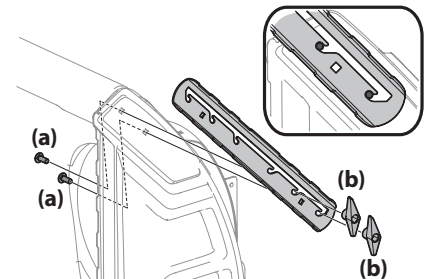

Figure 2-39
1. Loosen the two carriage bolts (a) and wing nuts (b) that secure each drift cutter to the sides of auger housing. See Figure 2-39.